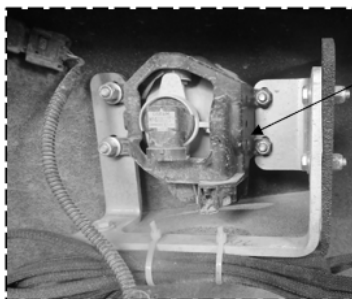

Figure 3a: OEM Fog Lights Installation (Driver Side Shown)
2. Install the OEM fog lights with the provided brackets to the HERD Truck Guard as shown in Figure 3a.